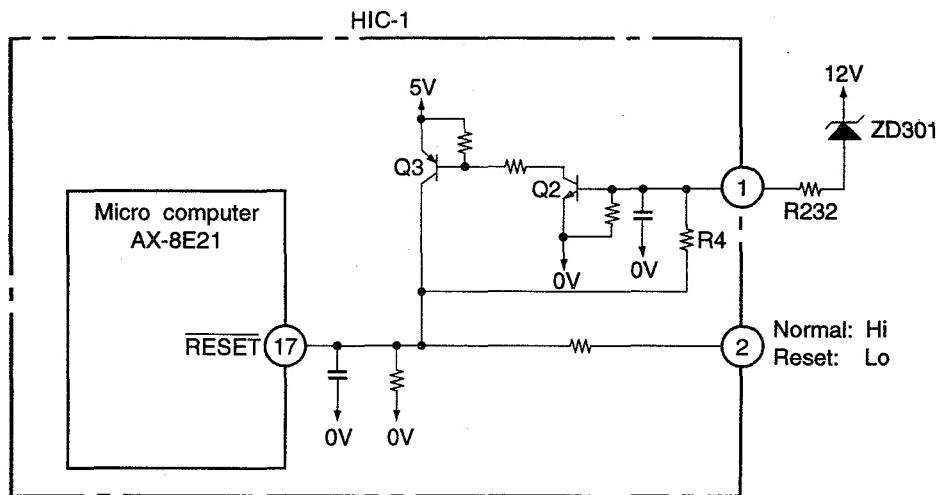
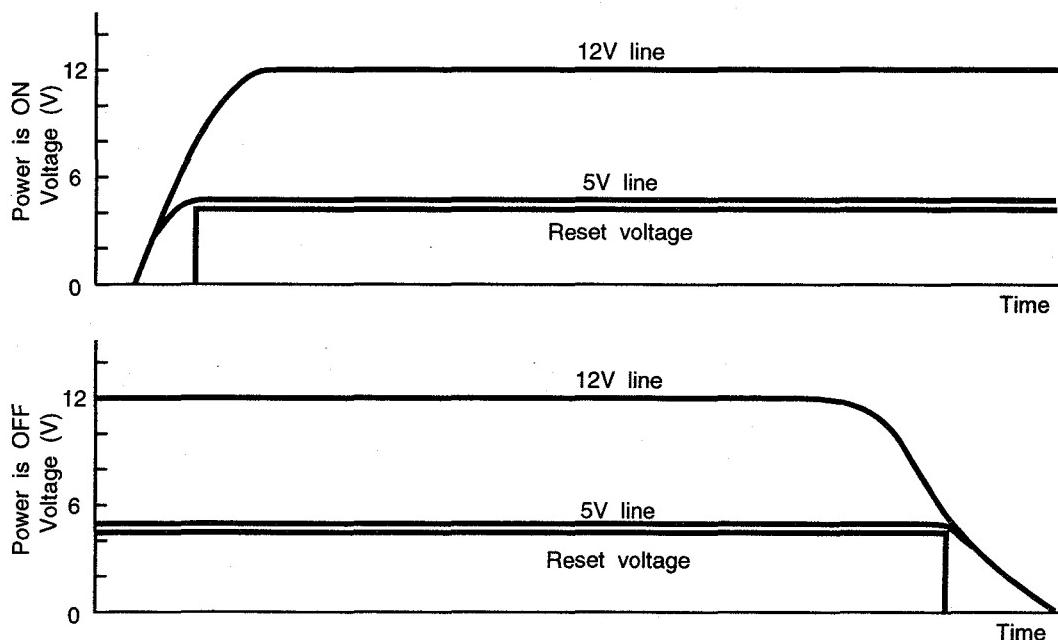

Fig. 11-1
Fig. 11-2
- Fig. 11-1 shows the reset circuit and Fig 11-2 shows waveform at each point when power is turned on and off.